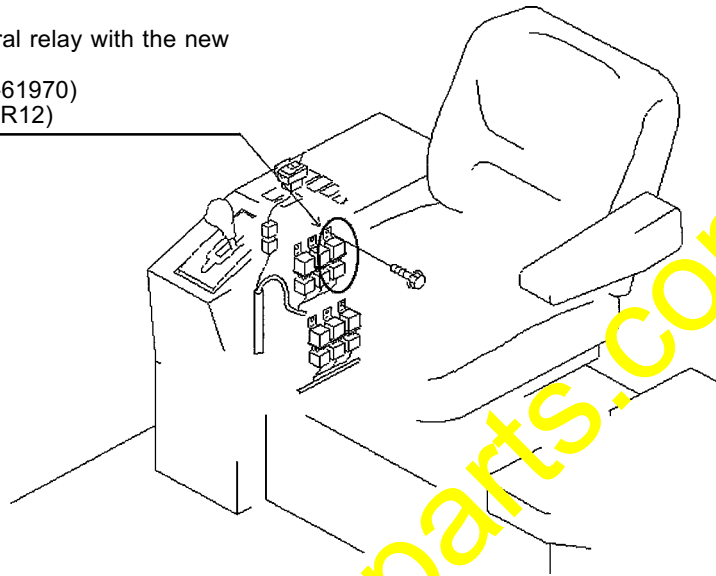

Fig. 3
3) Changing the neutral relay (Refer to Fig. 3.)